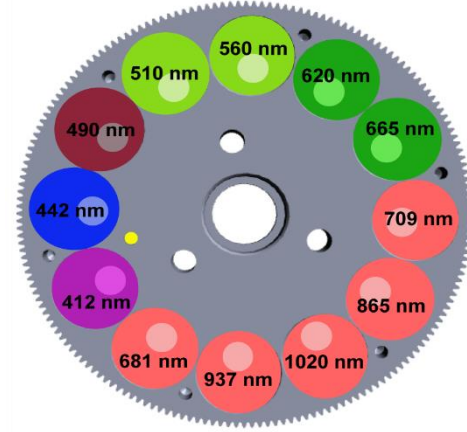

Figure 6: Lake Color 12 filters (CE318-TV12-LC)
- **Lake Color (LC) 12 filters / CE318-TV12-LC:** It uses 412.5, 442.5, 490, 510, 560, 620, 665, 681, 709, 865, 937, 1020 nm filters (Fig.6)